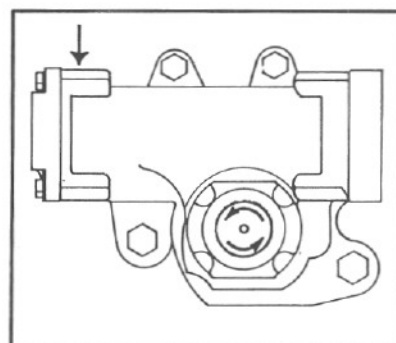

Figure 31
With the engine at idle, have someone turn the steering wheel to full lock while you observe the rotation of the sector shaft (50) (FIG. 31). If the sector shaft turns counter-clockwise, adjust the poppet identified by the arrow in FIG. 31. If the sector shaft turns clockwise, adjust the other poppet.